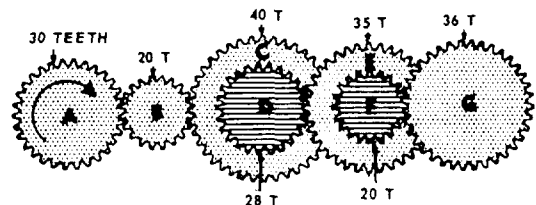

Figure 2E
- Items 2-33 through 2-36 are based on the gear train shown in figure 2E.